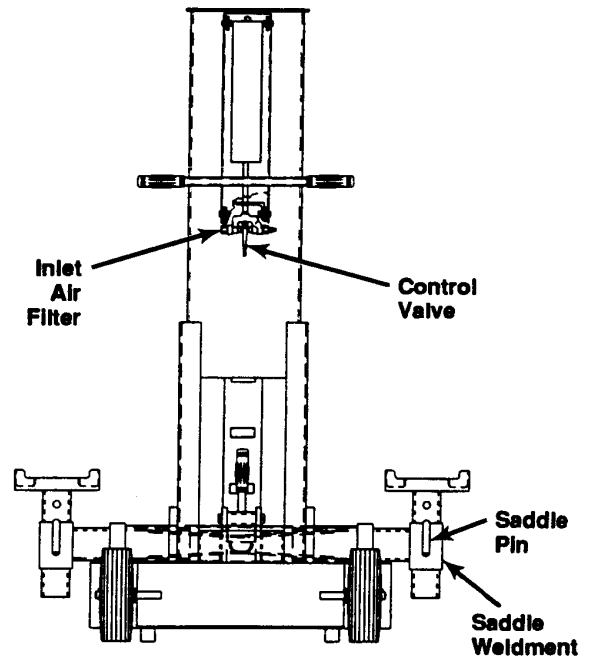

Figure 4
6. Insert saddle pins in the first holes above the saddle weldments. See Figure 4.